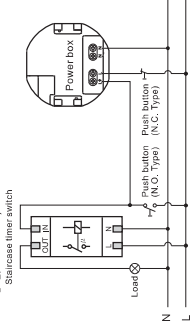
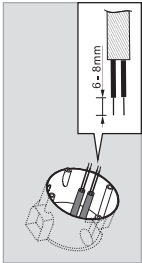

FIG. 7
FIG.13
- 3.2.4 Staircase timer switch control (Timer should be set to 10s). See FIG.7.
Pull out cables from European standard junction box (See FIG.13), then strip off 6-8mm of cable sheathing for wiring (See FIG.5-FIG.7).